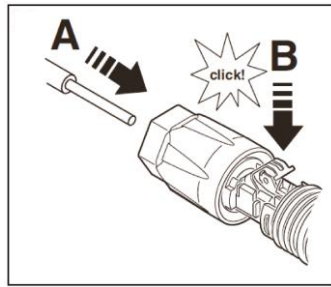

Figure 5-15
4. Carefully insert the stripped litz wires all the way in (Figure 5-15, A). The litz wire ends have to be visible in the spring.
5. Close the spring making sure that the spring is snapped in (Figure 5-15, B).